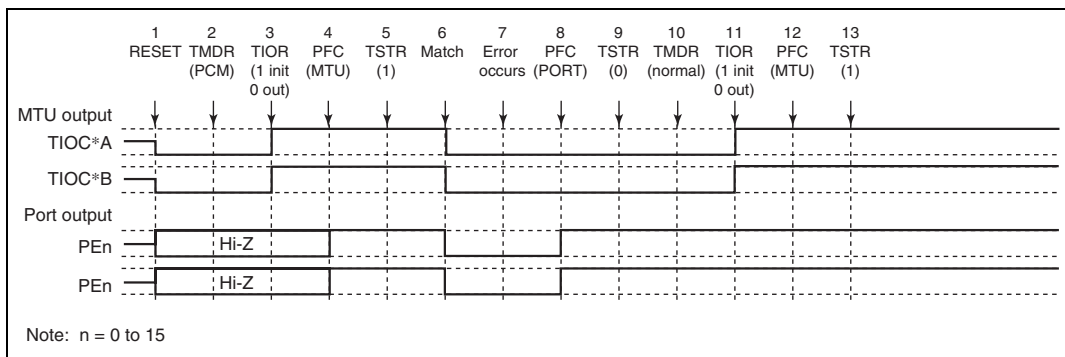

Figure 10.72 Error Occurrence in Phase Counting Mode, Recovery in Normal Mode
(13) Operation when Error Occurs during Phase Counting Mode Operation, and Operation is Restarted in Normal Mode: Figure 10.72 shows an explanatory diagram of the case where an error occurs in phase counting mode and operation is restarted in normal mode after re-setting.
1 to 9 are the same as in figure 10.72.
- 1 to 9 are the same as in figure 10.72.